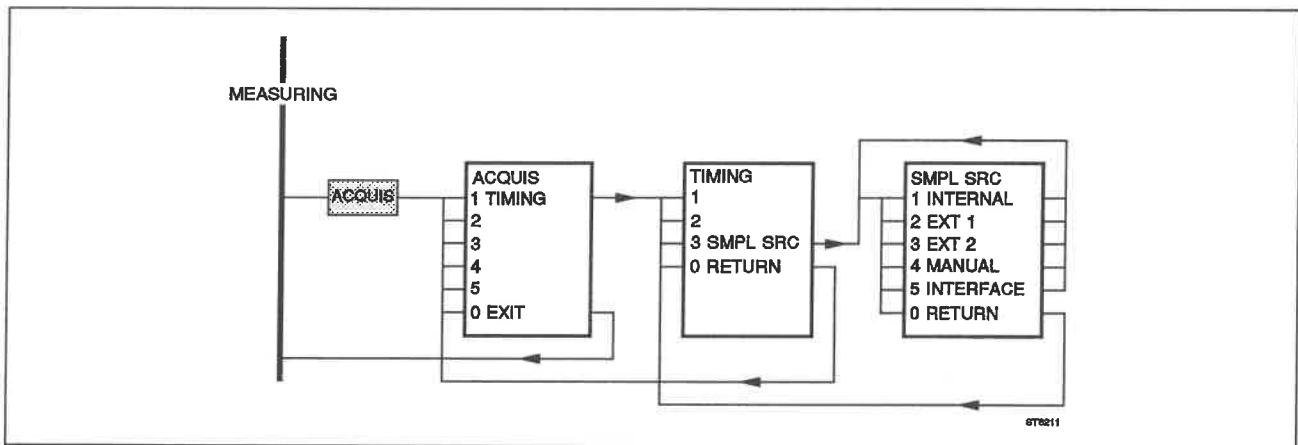

Fig. 4.23 Trigger input selection menu.
- press **ACQUIS** to invoke the ACQUIS menu (Fig. 4.23).